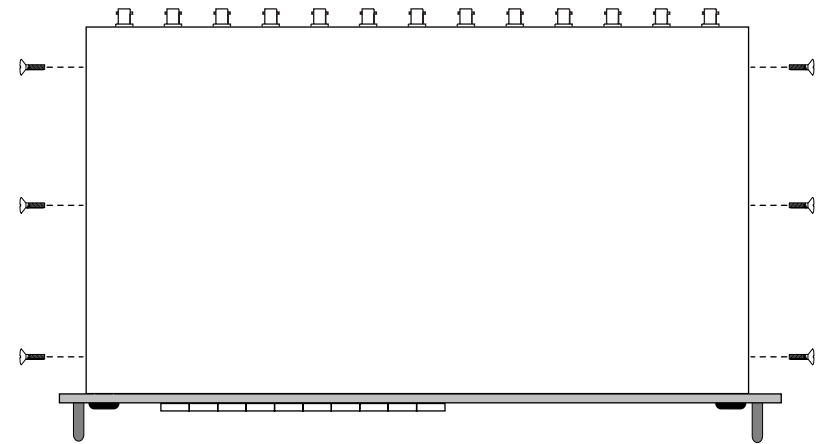

Figure 2 — Removing the top cover
4. Place the switcher on a clean work space and remove the three screws on either side of the switcher (figure 2). Remove the top cover.